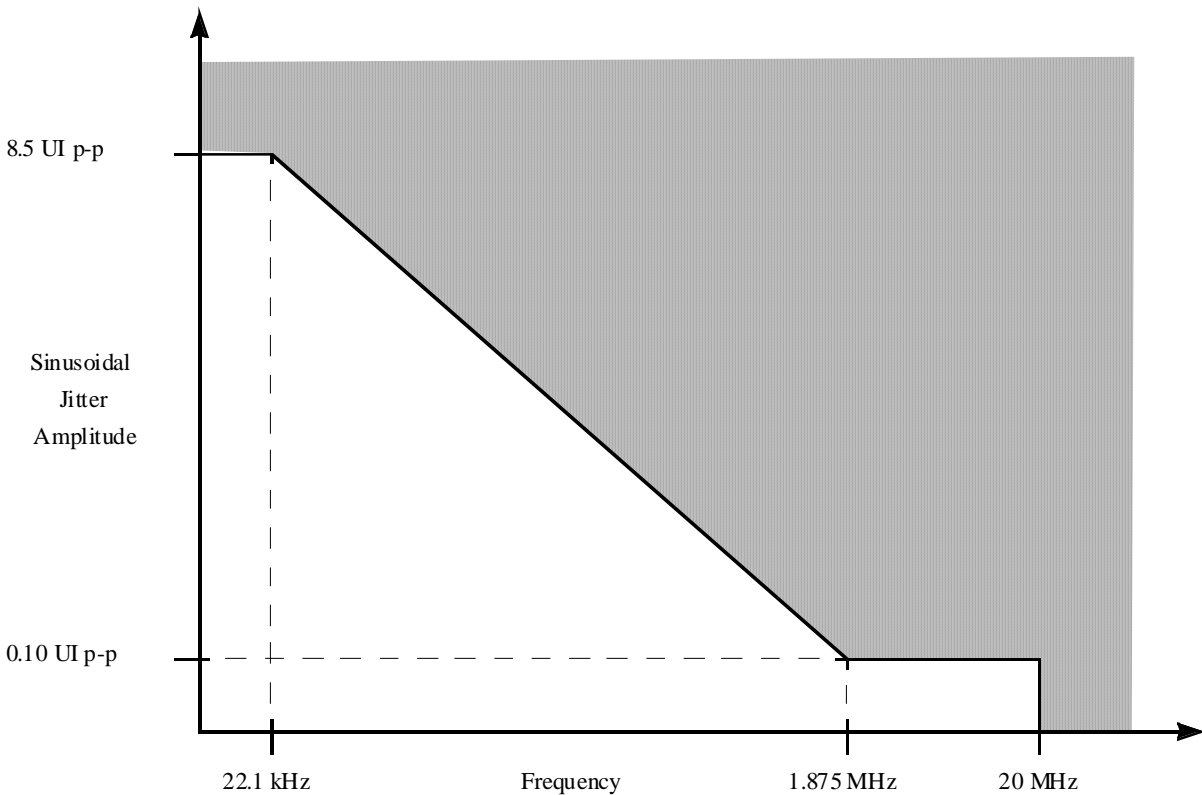

Figure 15. Single frequency sinusoidal jitter limits
- See Figure 15 for single frequency sinusoidal jitter limits.